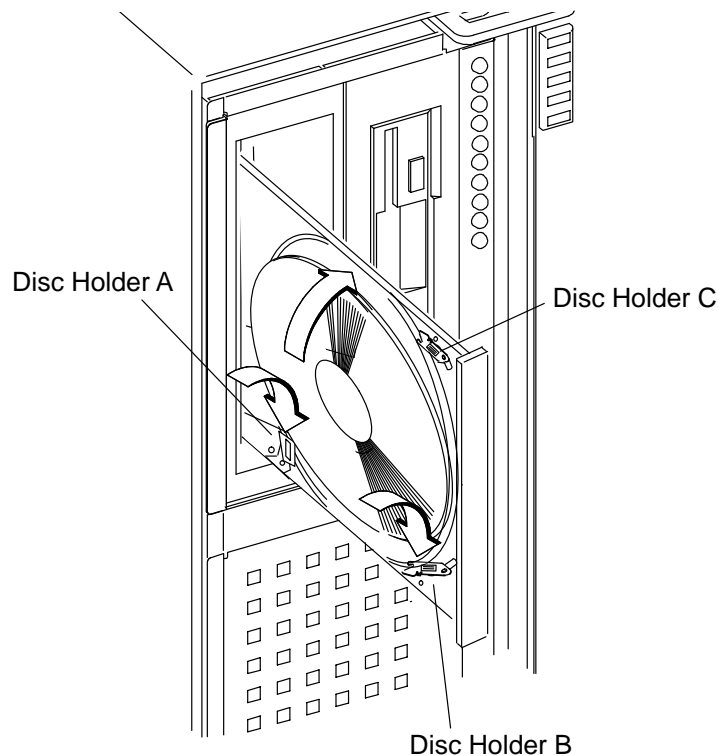

Figure 2-5. Inserting a CD-ROM Disc (Vertical Mount)
1. Hold the disc with the label side to the left and place the edge of the disc onto disc holders A and B as shown in Figure 2-5.